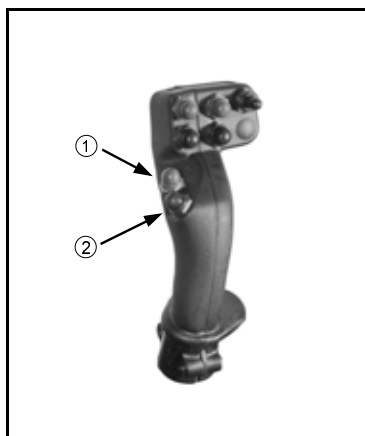

FIG 5.29
To raise and lower the transom/boom assembly, depress the "GRAY" (UP) or the "RED" (DOWN) buttons on the hydrostatic drive handle (fig. 5.29, item 1 & 2). While depressed, either button activates the transom lift cylinders (fig. 5.28).